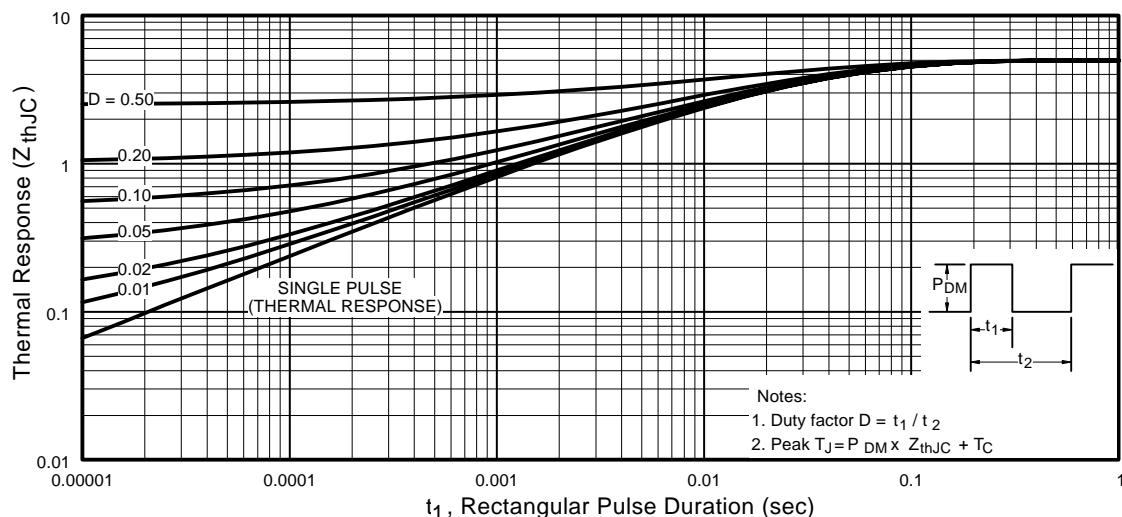

Fig 11. Maximum Effective Transient Thermal Impedance, Junction-to-Case
- ① Repetitive rating; pulse width limited by max. junction temperature. (See fig. 11)
- ② Starting $T_J = 25^\circ\text{C}, L = 4.7\text{mH}$